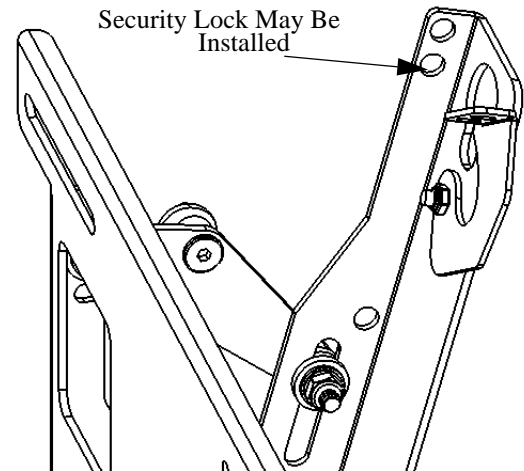

Figure 6. Optional Security
**NOTE:** A security lock may be installed through the hole in the locking flag for additional security (see Figure 6).